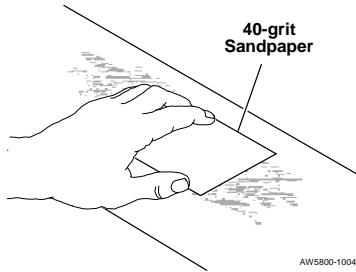

Figure 23. Sanding Trunnion Tube
- C. Using 40-grit medium sandpaper, sand the marked off area until it is free of paint and other residues. See Figure 23.